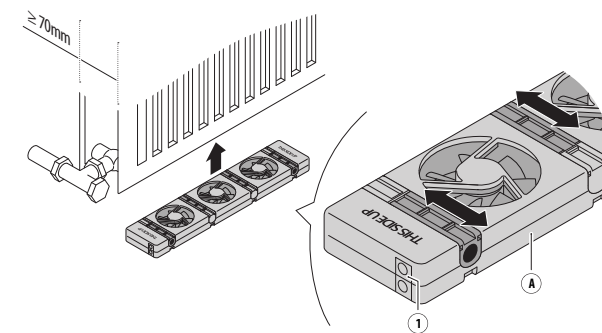

Fig. 1 - Position of the SpeedComfort (A).
1. Make sure the **SpeedComfort** (A) is facing upwards and that the female connectors (1) are positioned towards the **power socket** (see Fig. 1).